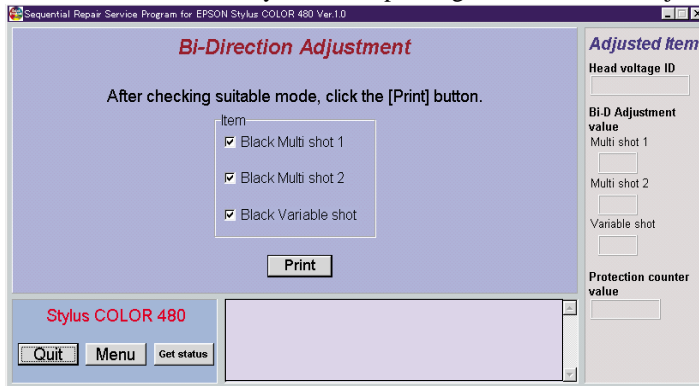

Figure 5-27. Bi-d adjustment menu
- After input the suitable pattern number, click the “Retry” button to return the Bi-directional check pattern print menu of Figure 5-27. When the “Print” button is clicked for the 2nd check pattern printing, following message is displayed. When the same paper used for 1st check pattern printing is set in the ASF and click the “OK” button in the following message, printer advances the paper under the 1st check printed pattern and the 2nd check pattern is printed on from the position.